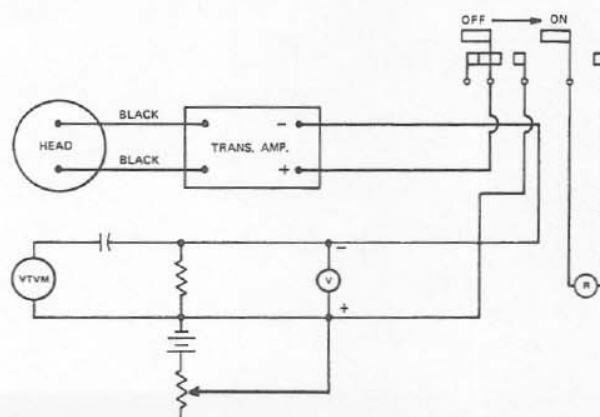

Figure 7 - Test Set-up
7. Test Procedure: (See Figure 7)
The best procedure for testing the microphone is to compare its output with one known to be operating properly, using the test set-up shown in Figure 7. Check the output voltage as follows: